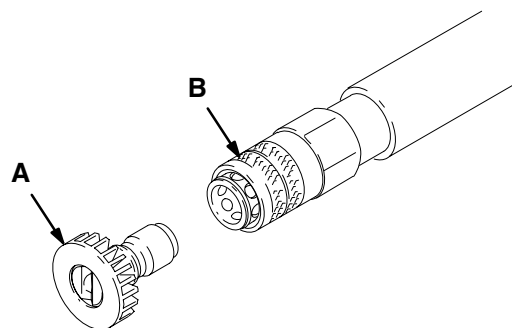

Figure 3
4. Point spray tip (A) away from hands and body. Pull back quick coupler ring (B). Remove tip with fingers and hand to side of spray tip. Replace tip and push back ring. See Figure 3.